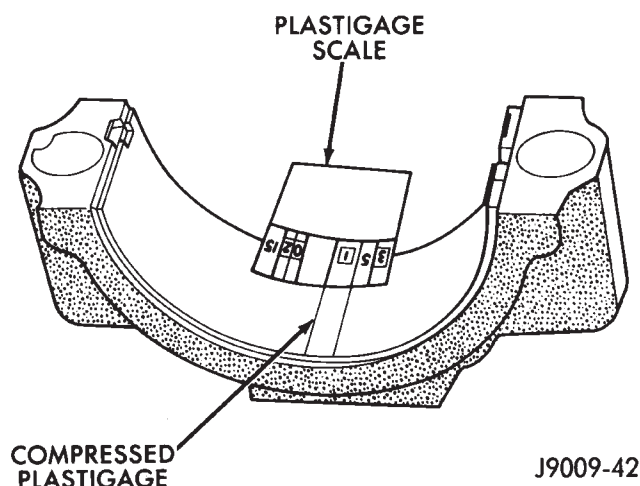

Fig. 17 Measuring Bearing Clearance with Plastigage
- (5) Install the lower bearing insert in the bearing cap. The lower insert must be dry. Place strip of Plastigage across full width of the lower insert at the center of bearing cap. Plastigage must not crumble in use. If brittle, obtain fresh stock.
- (6) Install bearing cap and connecting rod on the journal and tighten nuts to 45 N·m (33 ft. lbs.) torque. DO NOT rotate crankshaft. Plastigage will smear, resulting in inaccurate indication.
- (7) Remove the bearing cap and determine amount of bearing-to-journal clearance by measuring the width of compressed Plastigage (Fig. 17). Refer to Engine Specifications for the proper clearance. **Plastigage should indicate the same clearance across the entire width of the insert. If the clearance varies, it may be caused by either a**